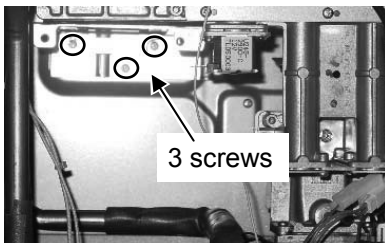

Figure 41
19. Remove 3 screws behind the fan. (Figure 41)
23. Install the new heat exchanger using 2 screws above the exhaust and 3 screws behind the fan. (Figures 41, 42)